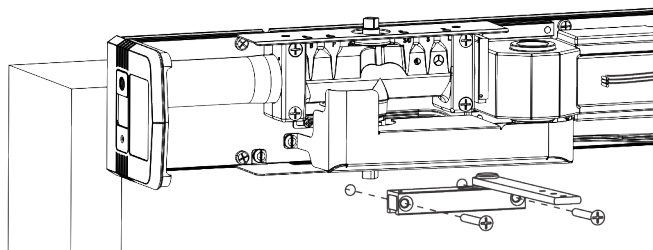

Figure 18
1. Using previously prepared holes in door, install two (2) 1/4-20 x 1-5/8" screws through shoe and into sex bolts. (Figure 18)